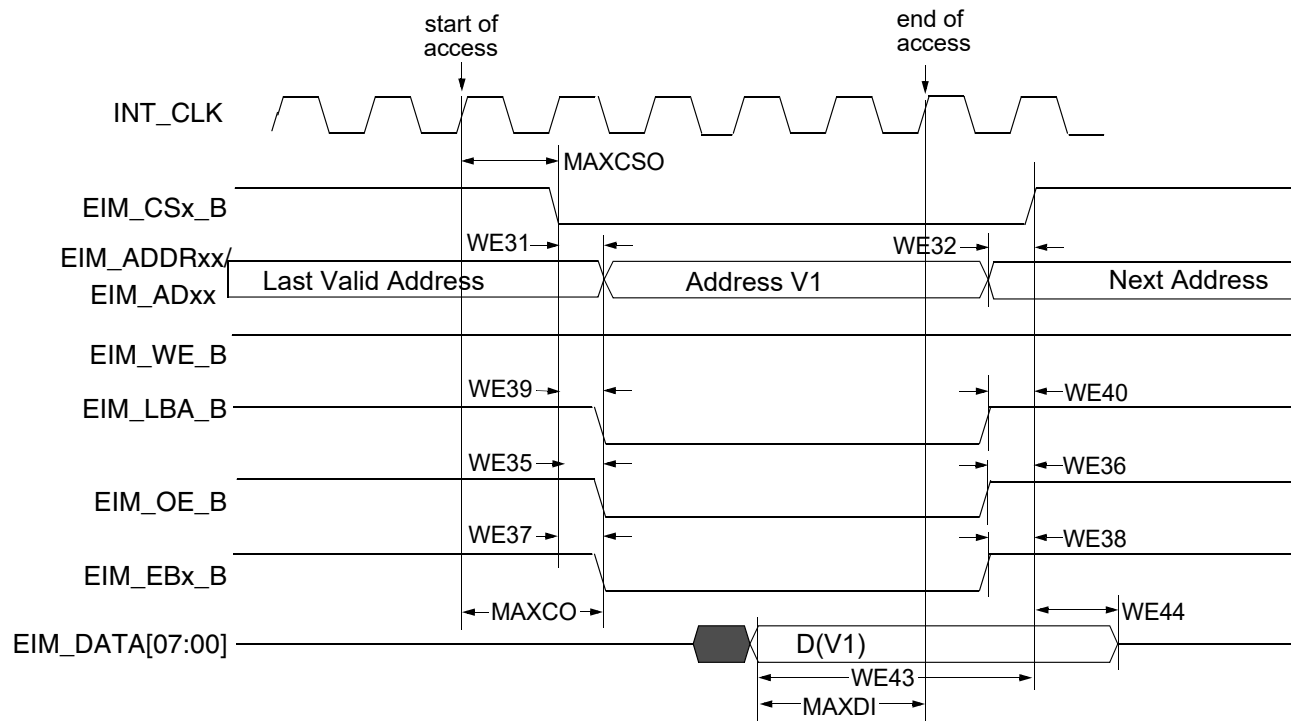

Figure 16. Asynchronous Memory Read Access (RWSC = 5)
Figure 16 through Figure 20 and Table 36 provide timing parameters relative to the chip select (CS) state for asynchronous and DTACK EIM accesses with corresponding EIM bit fields and the timing parameters mentioned above.
Asynchronous read and write access length in cycles may vary from what is shown in Figure 16 through Figure 19 as RWSC, OEN & CSN is configured differently. See the i.MX 6Dual/6Quad reference manual (IMX6DQRM) for the EIM programming model.